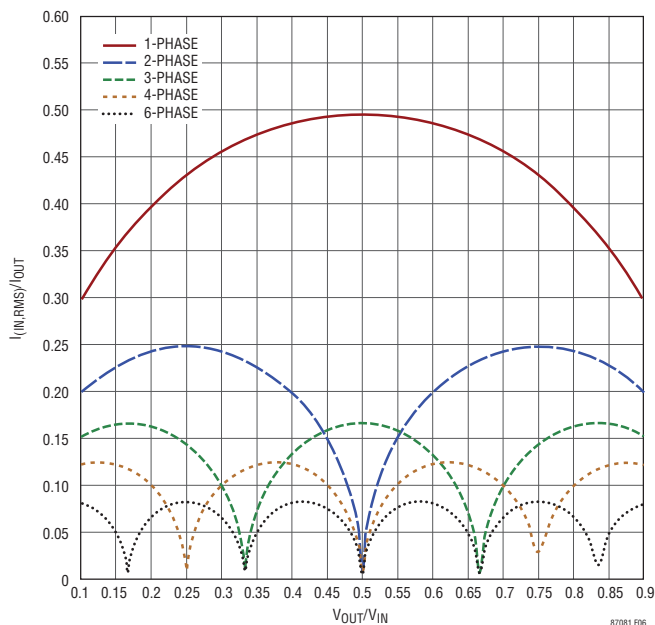
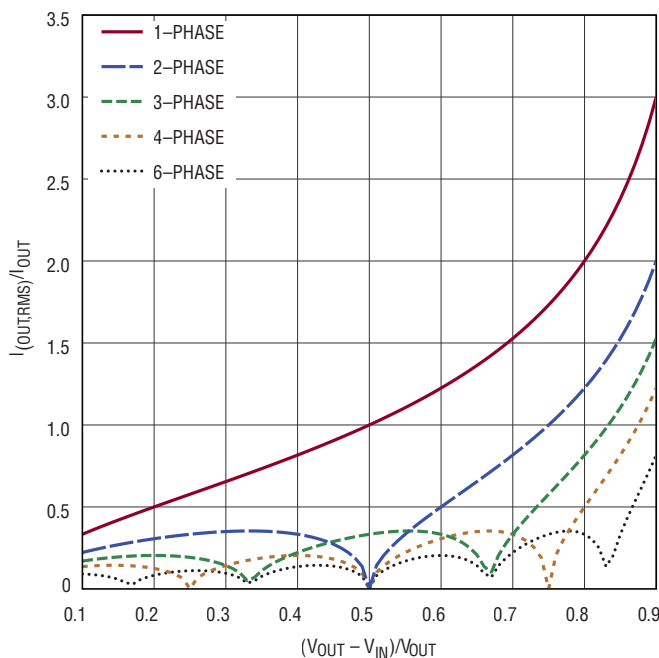

Figure 7. Normalized Total Input RMS Ripple Current vs V_{OUT}/V_{IN} for One to Six Phases in Buck Operation
Figure 8. Normalized Output RMS Ripple Current vs $(V_{OUT} - V_{IN})/V_{IN}$ for One to Six Phases in Boost Operation
Discontinuous V_{IN} current is highest in the buck region due to the M1 switch toggling on and off. Ensure that the C_{IN} capacitor network has low enough ESR and is sized to handle the maximum RMS current. Figure 7 shows the total input capacitor RMS ripple current for one to six phases with the V_{OUT} to V_{IN} ratios in buck operation.
Figure 7 also shows the maximum total normalized input RMS current for one to six phases. Choose an adequate C_{IN} capacitor network to handle this RMS current.
Discontinuous V_{OUT} current is highest in the boost region due to the M4 switch toggling on and off. Make sure that the C_{OUT} capacitor network has low enough ESR and is sized to handle the maximum RMS current. Figure 8 shows the output capacitor RMS ripple current for one to six phases with the $(V_{OUT} - V_{IN})$ to V_{OUT} ratios in boost operations. The total output RMS ripple current $I_{(OUT,RMS)}$ is normalized against the total output current of the multiphase system (I_{OUT}). The graph can be used in place of tedious calculations. From the graph, the minimum total output RMS ripple current can be achieved when the product of the number of phases (N) and duty cycle $(V_{OUT} - V_{IN})/V_{OUT}$ is approximately equal to integers or:
Figure 8 also shows the maximum total normalized output RMS current for one to six phases. Choose an adequate C_{OUT} capacitor network to handle this RMS current.
Figure 7 and Figure 8 show that the peak total RMS input current in buck operation and the peak total RMS output current in boost operation are reduced linearly, inversely proportional to the number of phases used. It is important to note that the ESR-related power loss is proportional to the RMS current squared, and therefore a 3-phase implementation results in 90% less power loss when compared to a single-phase design. Battery/input protection fuse resistance (if used) PCB trace and connector resistance losses are also reduced by the reduction of the ripple